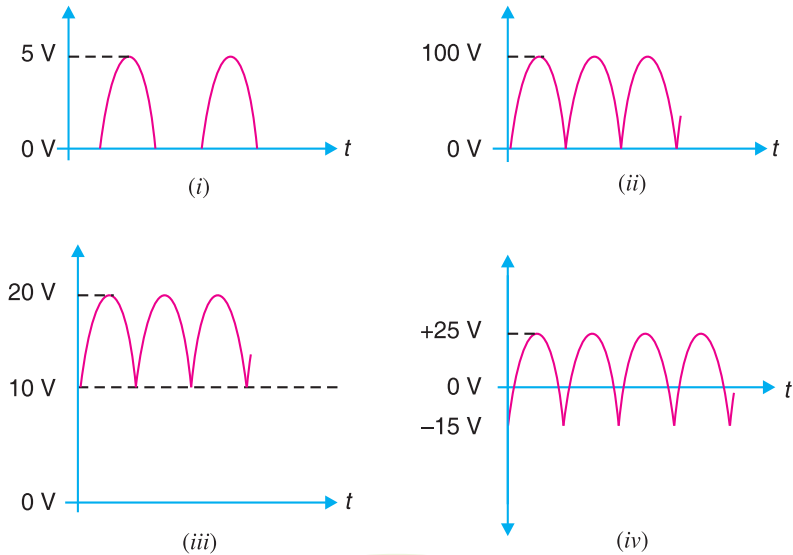

Fig. 6.78
11. Find the average value of each voltage in Fig. 6.78.